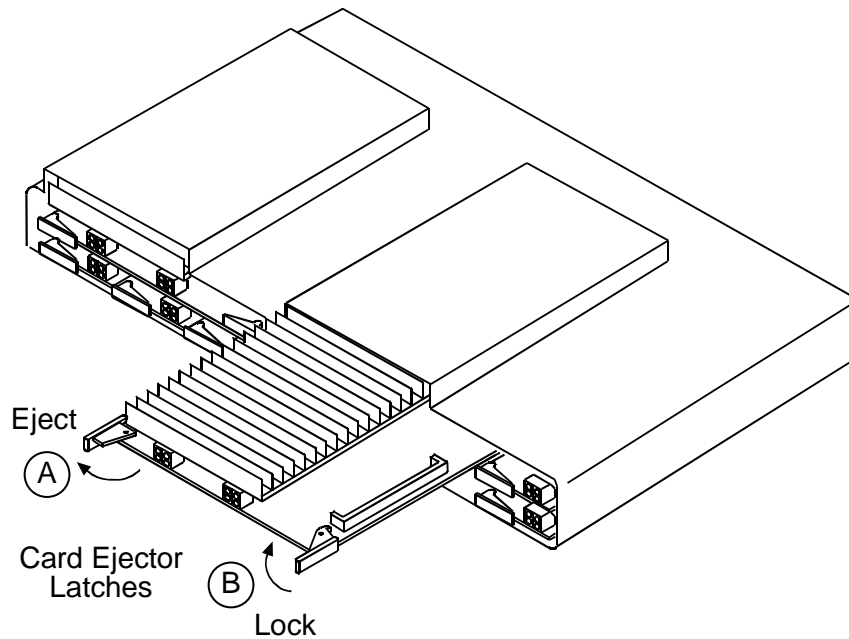

Figure 6-35. Installing Controller Card
2. Straighten card ejector latches (see Figure 6-35), position Controller card in guide rails, and carefully slide card into slot.